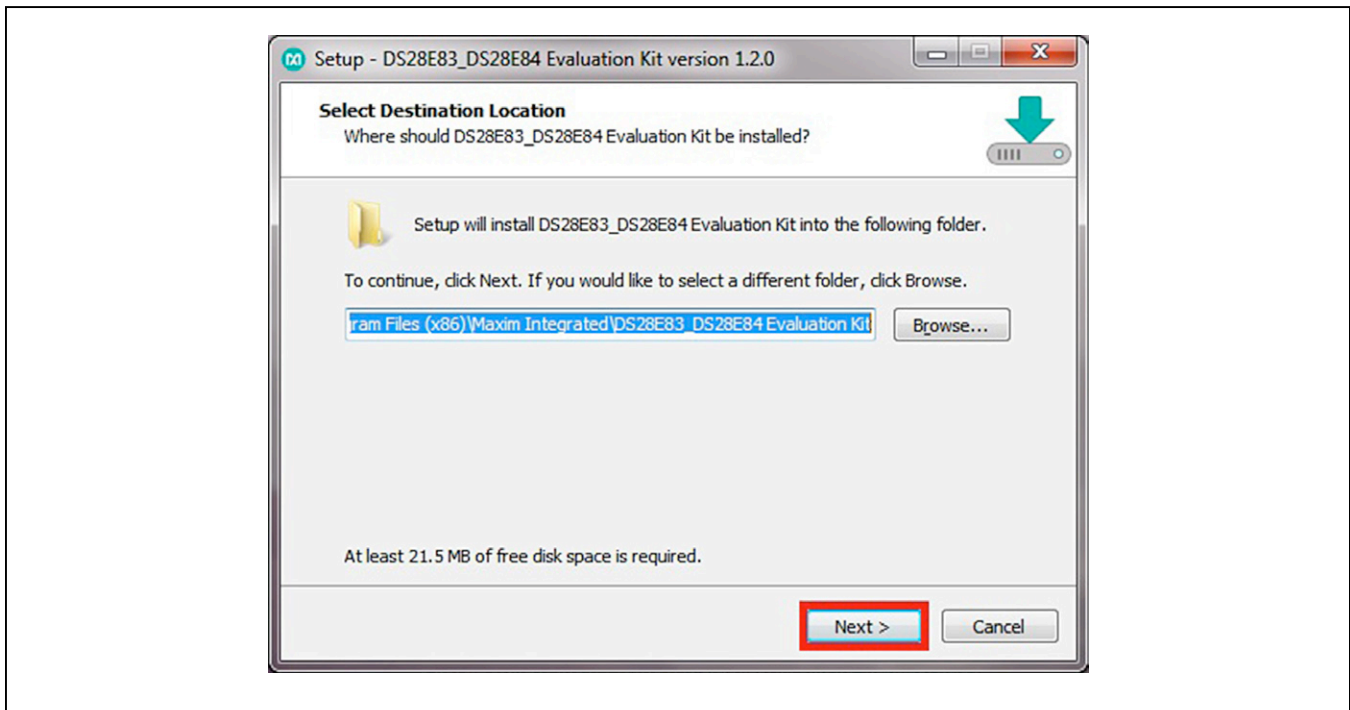

Figure 2. Install Folder Location
- 4) Click **Browse** to select a default folder location, and then click **Next** to install the EV kit software (Figure 2).